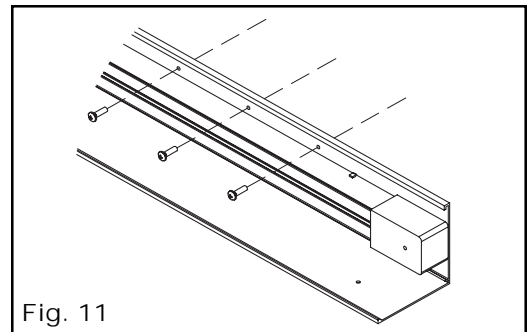

Fig. 11
10. Screw track support onto designated skylight side beam or mullion. (**Fig. 11**)